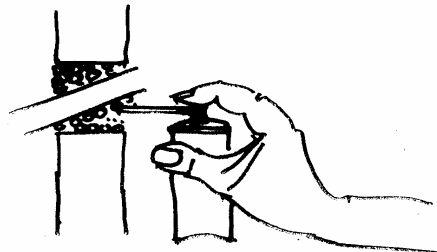

Figure 7.1 Seal penetration through outside wall
- ❖ **Seal all gaps where conduits, electrical boxes, pipes and ducts penetrate, using an elastic sealer like foamed polyurethane. The contact surfaces should be moistened before application of the sealant. Fig7.1**